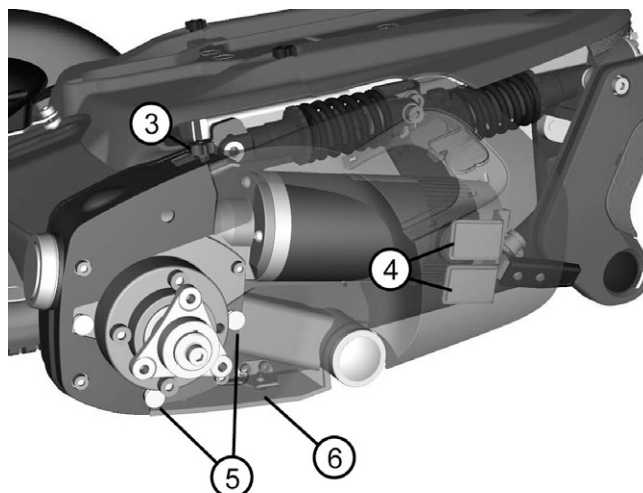

Figure 22. The drive motor cover is assembled with hook and loop fasteners (3 – 4) and a fixing point (5) at the bottom.
2. Position the cover on the drive package making sure the fixing point (5) is correct positioned with the screw head (6) in corresponding hole of the cover. See fig. 22.
3. Make sure it fits towards the drive gear cover and assemble the knob (3) on the top. See fig. 22.
4. Press the cover from the side against the drive package until the hook and loop fastener (4) attaches with a "Click". See fig. 22.